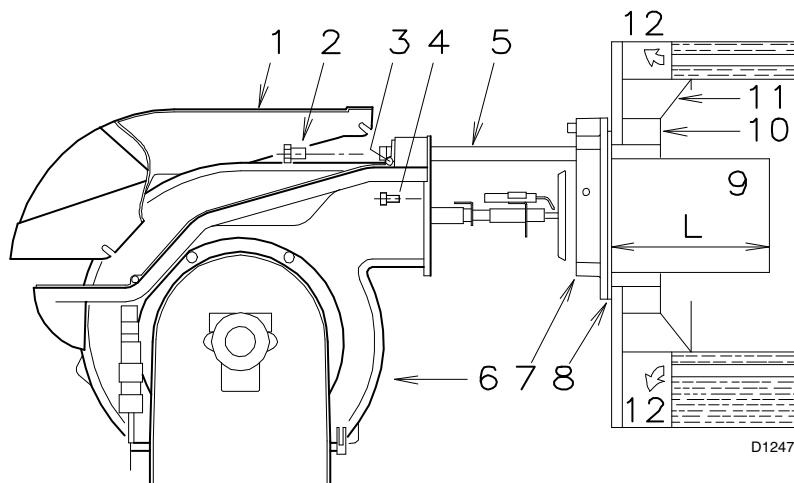

Fig. 7
For boilers having a water-cooled front the refractory fettling 10)-11) (Fig. 7) is not required unless it is expressly requested by the boiler manufacturer.
Secure flange 7) (Fig. 7) to the boiler plate interposing the supplied gasket 8) (Fig. 7). Use the 4 screws provided after having protected the thread with antiscruffing products.
- Retract the burner on its slide bars as shown in (Fig. 7 pag. 9).